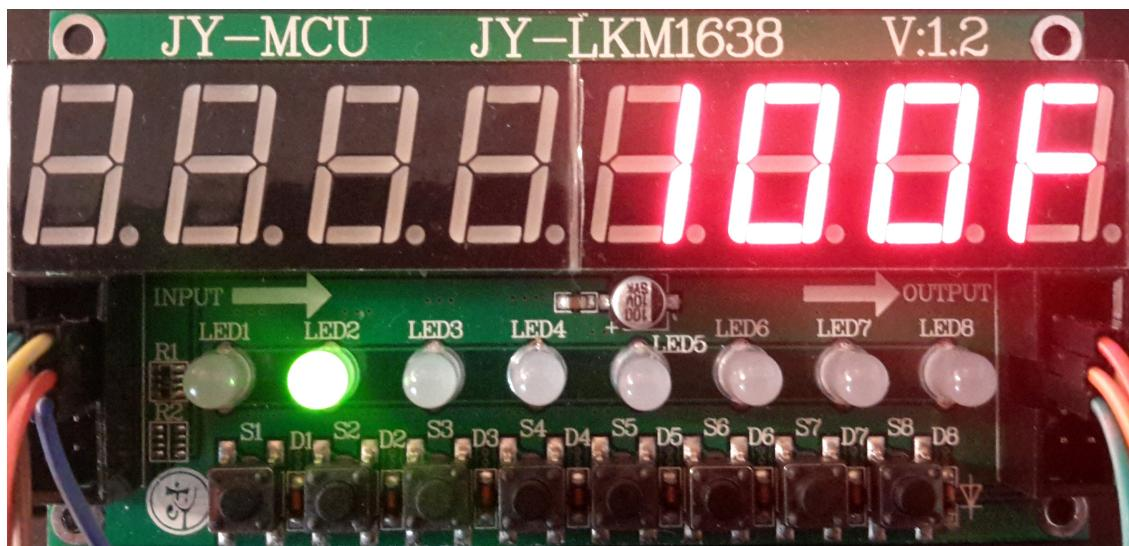

Figure 5: Display of the bake temperature setting menu. We note the current temperature setting is 100°F and that the “bake” LED status light is lit.
- ♦ See fig. 5 on the next page.